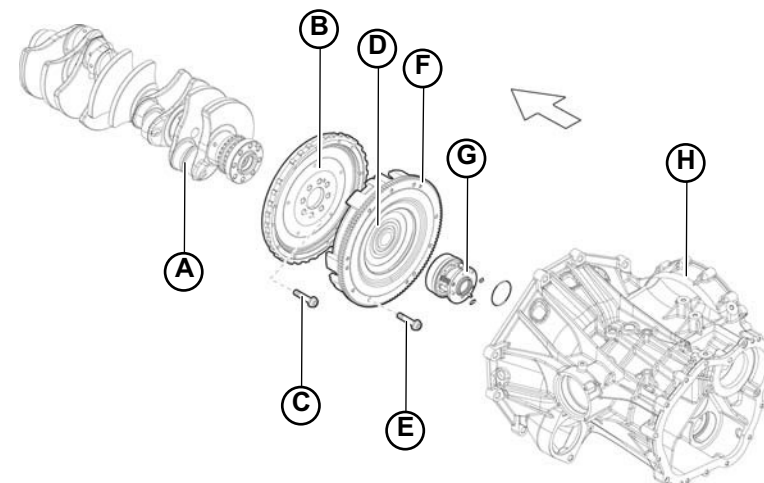

Fig.1
Clutch (Fig.1)
1. Assemble the phonic wheel (**F-Fig.1/2**) on the flywheel (**B-Fig.1/2**) using the 3 mounting screws (**I-Fig.2**).
4. Secure the flywheel onto the crankshaft using the 10 mounting screws (**C-Fig.1/4**).
Apply System 52A43 medium thread sealant and tighten the 9 screws (E-Fig.1) in the clockwise order indicated by the numbers in Fig.6.